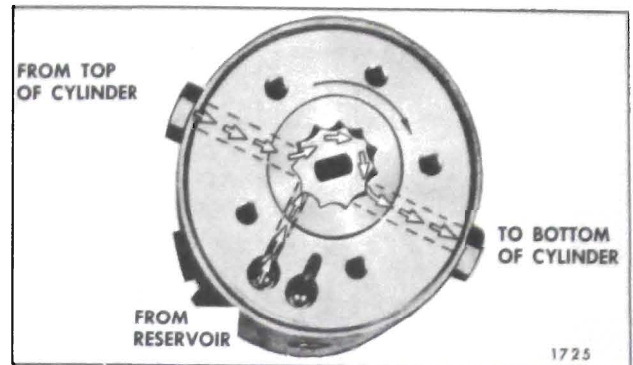

Fig. 13-63 — Operation Of Pump To Raise Top
1. **Raising the Top.** When the red motor lead is energized the motor drive shaft turns the rotors clockwise as indicated by the large arrow in Figure 13-63. The action of the pump rotors forces the fluid under pressure to the bottom of each cylinder forcing the piston upward. This action causes the fluid above the piston in each cylinder to be forced into the pump, which recirculates the fluid to the bottom of the cylinders. The additional fluid required to fill the cylinder due to piston rod displacement is drawn from the reservoir.